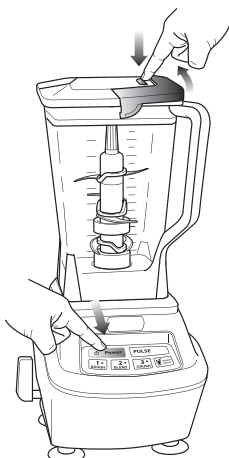
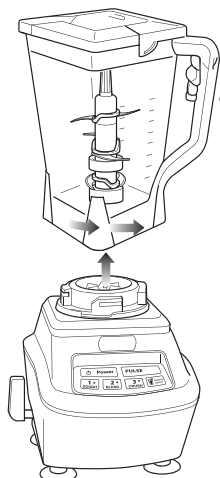

Fig. 7
Fig. 8
- 10** When you have reached your desired consistency, stop the appliance by pressing the power button (⏻) and wait for the attachment to stop turning. (Fig. 7)
- 11** To remove the lid, press the release button on the lid, pull the lid handle up to a 90° angle and lift the lid off. Turn the pitcher counter clockwise and then lift off the base. (Fig. 7, Fig. 8)